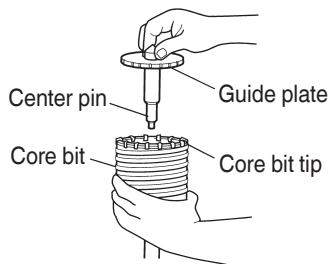

Fig. 17
- (3) Insert the center pin into the guide plate until it stops.
(4) Engage the guide plate with the core bit, and turn the guide plate to left or right so that it does not fall even if it faces downward. (Fig. 17)